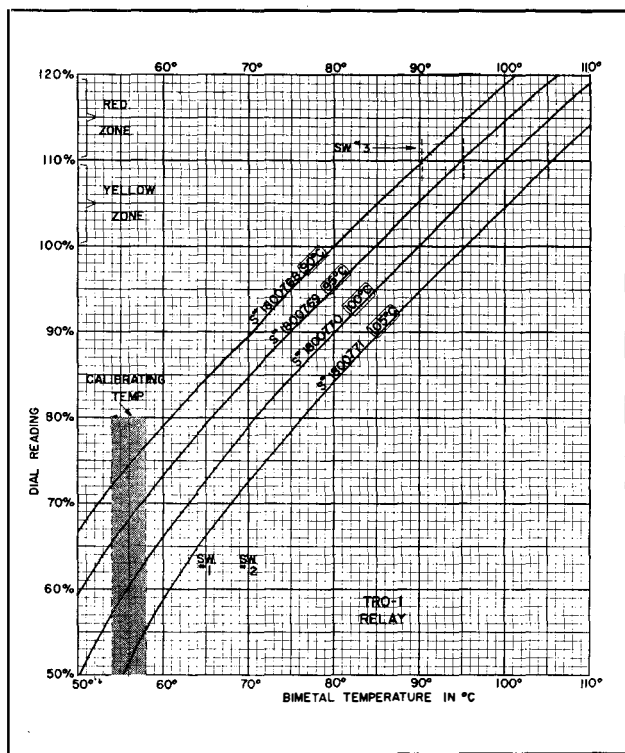

FIG. 10. Dial Calibration Curve
For each style of relay there is a definite relationship between the bimetal temperature and the dial position at any moment. Fig. 10 shows this relationship.
For a relay that does not bear a style number, check the relay nameplate for the switch temperature corresponding to "110% thermal load." Match this temperature with those boxed in Fig. 10 and choose that style for your reference curve. Temperature settings for individual switches may also be obtained from the relay nameplate.
3. When the calibration run has been completed, the observed dial readings should be compared with the data on the curves in Fig. 10.
The observed dial readings during the heating cycle are as follows: Switch No. 1—80%, Switch No. 2—86%, Switch No. 3—109%. From Fig. 10, the curve for S#1800 769 indicates that for these dial readings the corresponding bimetal temperatures are 66°C., 71°C. and 94°C. These are within a tolerance of plus or minus 2° of the correct figures and the relay will not require recalibration.
4. Measurement of the differential between switch closing and opening temperatures is possible by observing the dial readings coincident with switch opening while the bimetal is cooling down from the above test. Refer to Fig. 10 again for the corresponding bimetal temperature.
In trying to bring the relay temperature into line for calibration, the curves of Fig. 10 will be helpful in determining the actual temperature of the bimetal at all times.
3. When the bath has been at the temperature of 56°C for at least 15 minutes, or as soon as the dial indicates (See Fig. 10) that 56°C has been reached, the instrument is ready for any switch adjustments.
Bring the oil bath as quickly as possible to a temperature at least 2 degrees above that of No. 3 switch. Make sure all relay switches to be tested are still wired to lamp indicators. Don't begin the test until the relay has been cooled below the opening temperature of the lowest temperature switch to be tested. Now place the relay in the hot bath and make a record of the dial reading at the time each switch closes in the upward heat sequence. If the relay dial positioning was originally established as correct, these new readings may be checked against the curves of Fig. 10 to determine the corresponding bimetal temperatures.